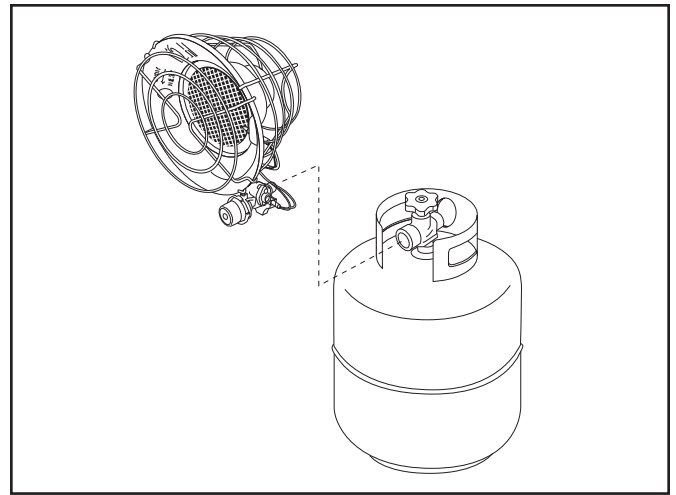

Figure 2a.
- Insert regulator connector into tank valve outlet fitting and turn left (counterclock-wise) until fully tightened. Do not overtighten. (See Figure 2a)